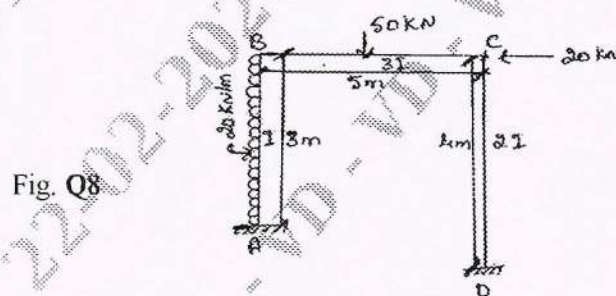

Fig. Q8
- 8 Analyze Portal frame shown in Fig. Q8, by Flexibility Matrix method. Draw Bending Moment diagram. (20 Marks)